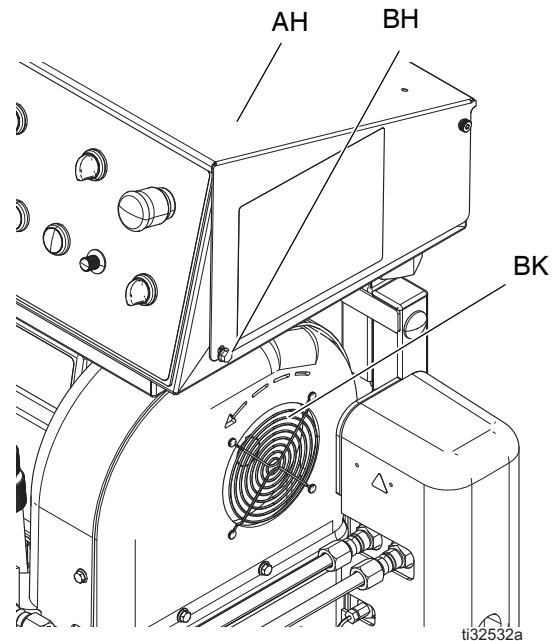
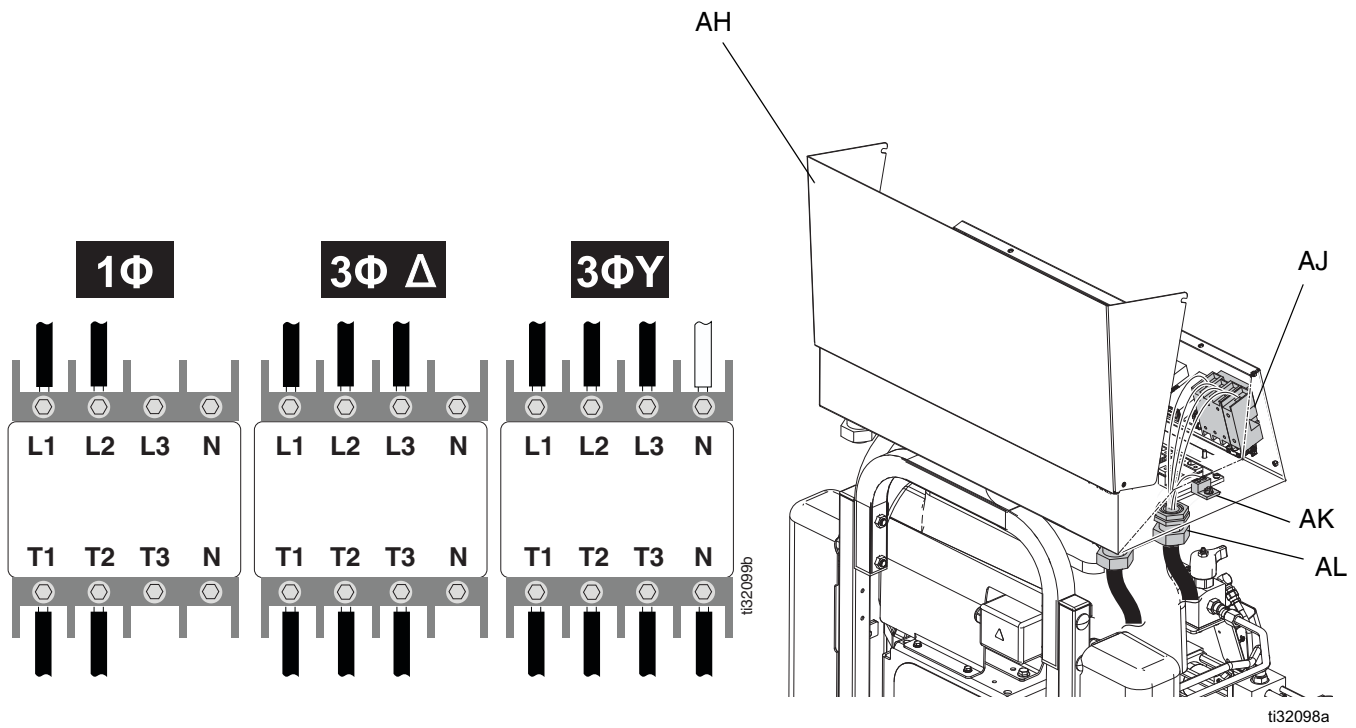

FIG. 7: Electric Motor Rotation
FIG. 8: Connect Incoming Power Wires
2. Turn main power disconnect (CE) to OFF.
3. Open the electrical enclosure door (AH) by loosening the bolts (BH) and lifting the door upwards. See FIG. 8.
4. Route power cable through power inlet cord grip (AL) in electrical enclosure (C). Tighten cord grip (AL). See FIG. 8.
5. Connect incoming power wires to main disconnect terminals (AJ) and main ground lug (AK) as shown in FIG. 8. Torque to 55 in-lbs (6.2 N•m). Gently pull on all connections to verify they are properly secured.
- a. **230 V, 1 phase:** Using 5/32 or 4 mm hex allen wrench, connect two power leads to L1 and L2. Connect green to ground lug (AK).
- b. **230 V, 3 phase:** Using 5/32 or 4 mm hex allen wrench, connect three power leads to L1, L2, and L3. Connect green to ground lug (AK).
- c. **400 V, 3 phase:** Using 5/32 or 4 mm hex allen wrench, connect three power leads to L1, L2, and L3. Connect neutral to N. Connect green to ground lug (AK).
6. Verify electric motor fan (BK) rotation is correct. See FIG. 7.
7. Verify all items are connected properly as shown in FIG. 8. Close the electrical enclosure door (AH) and tighten the bolts (BH).